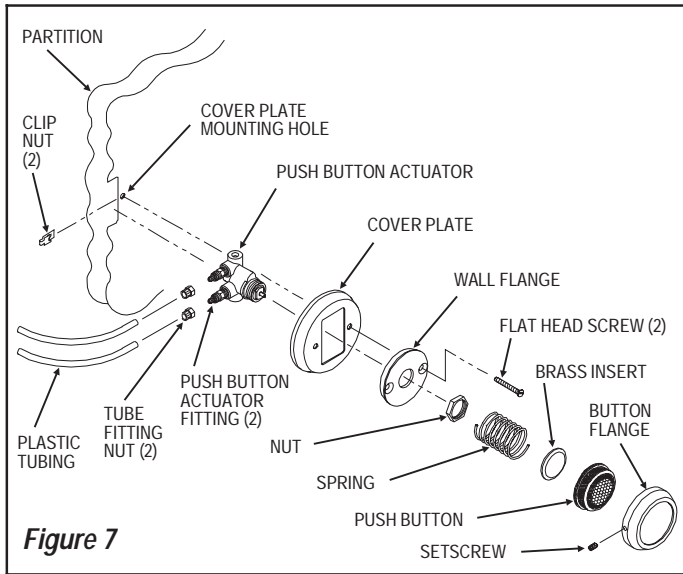

Figure 7
**INSTALLATION OF MODEL HY-49-A METAL PARTITION PUSH BUTTON ACTUATOR (Figure 7)**